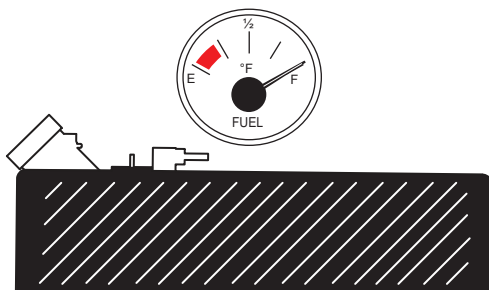

Figure 36. Full Fuel Tank
3. **NEVER overfill the fuel tank** — It is important to read the fuel gauge when filling the trailer fuel tank. **DO NOT** wait for fuel to rise in the filler neck (Figure 36).